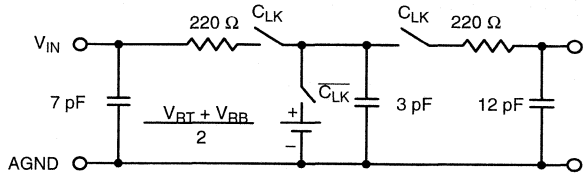

Figure 2. Input Equivalent Circuit
- 5 See V_{IN} input equivalent circuit (Figure 2). Switched capacitor analog input requires driver with low output resistance.
The ideal ADC is a linear building block that has infinite bandwidth and no phase distortion. A real ADC, however, exhibits finite bandwidth and non-constant group delay characteristics as well as non-linear behavior due to the non-zero INL characteristic. When modeling the ADC as a linear element and a quantizer, the circuit shown in Figure 2. can be used in order to represent the ADC's bandwidth.
1. Driving the analog input – The input impedance can be represented as a switched capacitor type input circuit, ie. the input impedance changes with the phase of the input clock. Figure 2. shows an equivalent input circuit. In many applications, the input impedance can be treated as capacitive. For fast signals and a high driving impedance, a wide bandwidth op amp is recommended.